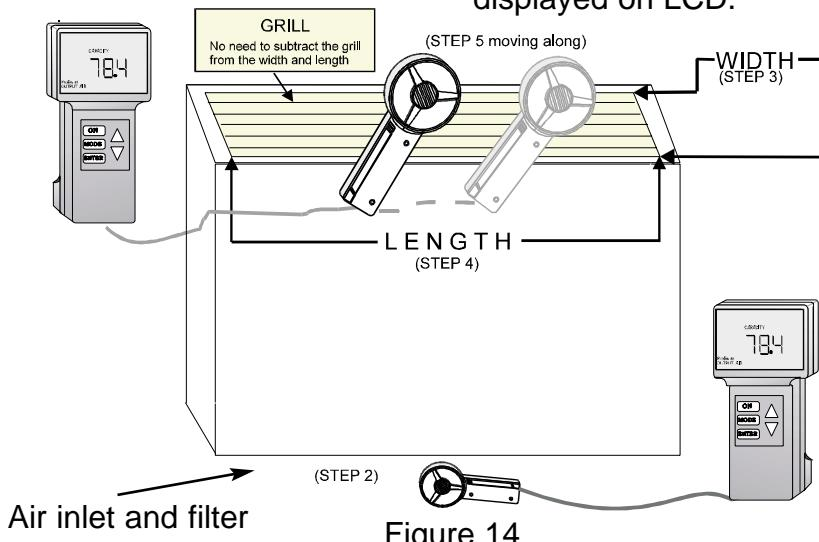

Figure 14
**NOTE:** When measuring return air it is recommended that the FAN SPEED IS SET ON HIGH and the probe is placed at the center of the inlet grill. (no movement is necessary during this measurement) (See Fig. 14)
**5.5.4** Using the  $\nabla\Delta$  buttons enter the outlet's width, in inches and press ENTER (Fig.14 step 3). Flashing "ENTER LENGTH" will be displayed on LCD.
Using the  $\nabla\Delta$  buttons enter the outlet's length, in inches. (Fig.14 step 4 &
- 5.5.8** Measure for one minute (Fig.14 step 5) making sure to move the probe over the complete area of the grill (Ref. Step 5.4.6) Aim at getting an average reading from all available openings. At the end of one minute the unit will beep and the LCD screen will display the results in Btu/h.(Fig.18)